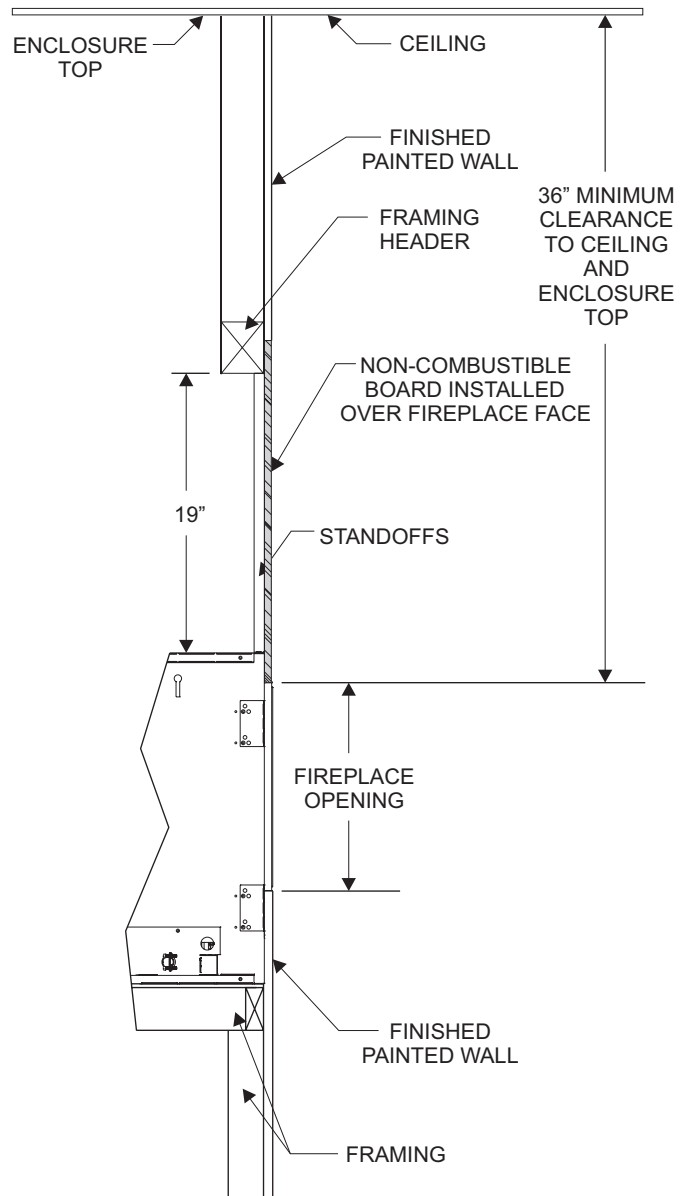

**Figure 43**
- Screws are allowed in framing and top mounting brackets. No screws are allowed into the fireplace. **See Figure 43.**